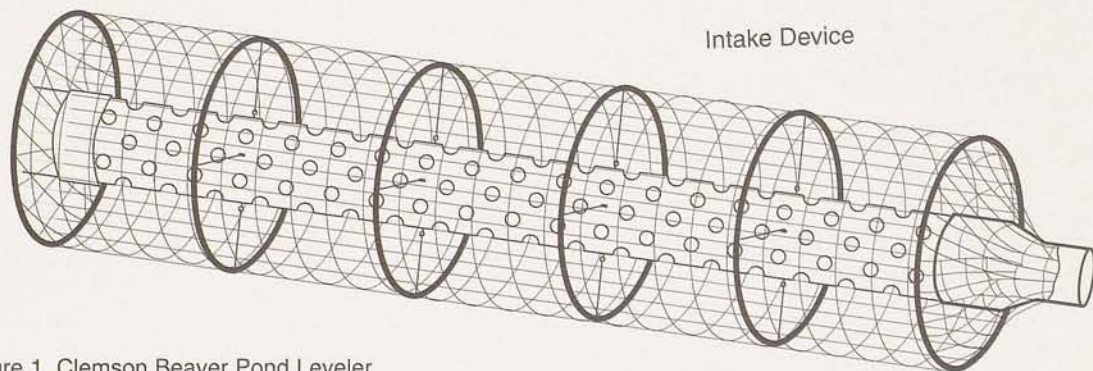
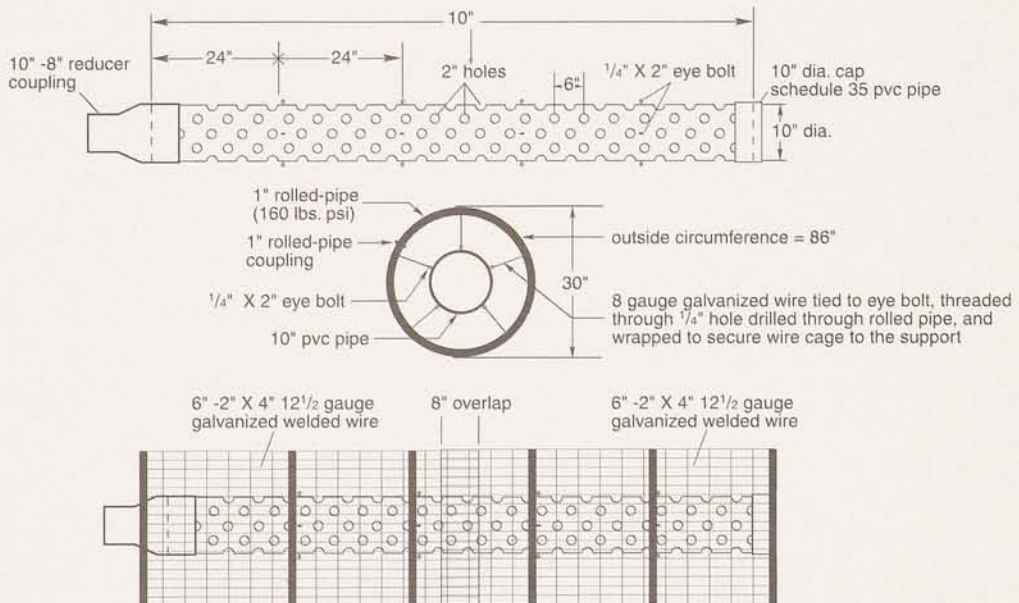
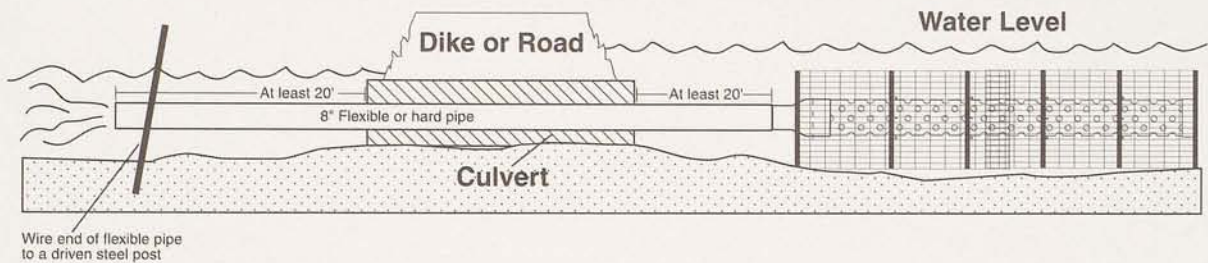
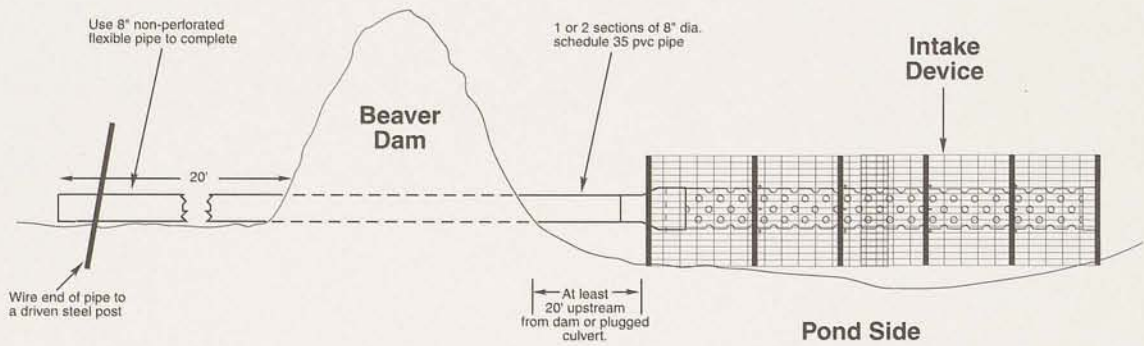

Figure 1. Clemson Beaver Pond Leveler
Figure 3. Design of Intake Device
Figure 4. Typical Installation in a Road or Dike Culvert
Figure 2. Typical Installation in a Beaver Dam.
The intake device is the key component of the leveler (Figure 1). It is placed on the bottom of the pond, ditch or stream upstream from the dam (Figure 2). Also, it may be suspended off the bottom on steel posts. The intake device consists of a 10' long piece of 10" diameter PVC pipe with about 160 2" holes drilled along its length (Figure 3). The PVC pipe is suspended in the center of a 30" diameter welded wire tube (the wire keeps beavers away from the pipe and therefore the source of the leak in their dam). The intake device is connected with a reducer to a section of 8" diameter PVC pipe that runs
The Clemson leveler consists of 2 basic parts, the intake device (Figure 1), and the outlet pipe. If you choose to construct your own intake device, carefully follow the plans and specifications in this brochure (Table 1, Figures 1 and 3). Variation from these plans and specifications will decrease the effectiveness of the Clemson leveler.
- The three basic applications are 1) a beaver dam (Figure 2), 2) a water level control structure (various applications), and 3) a plugged culvert (Figure 4). The intake device may be installed parallel to a road or dike using an elbow to connect with the outlet pipe.